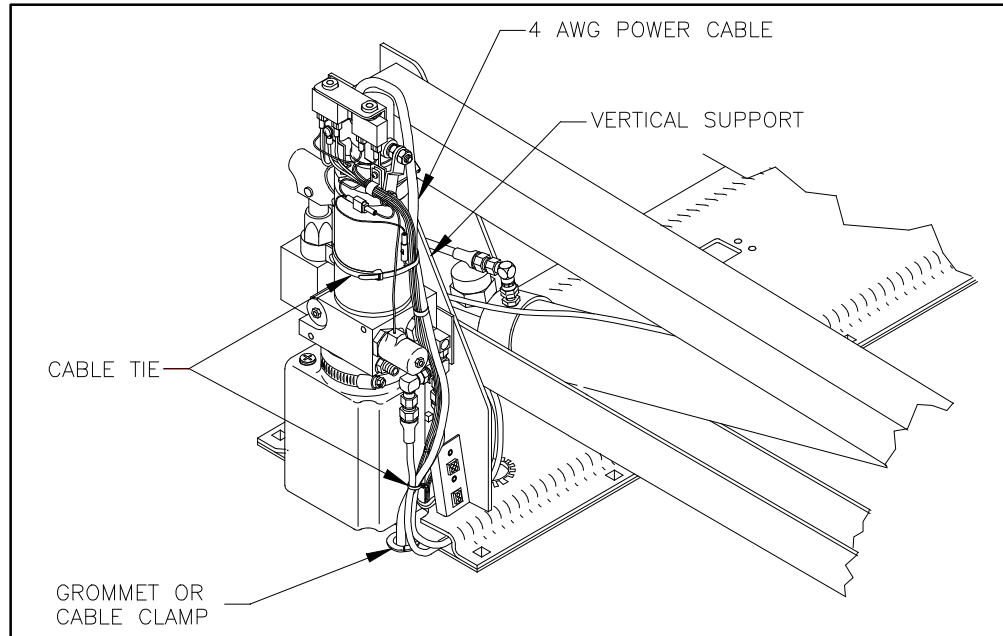

FIGURE 2-11: CABLE ROUTING
- e. Refer to **Figure 2-11**. Cut any excess wire from long cable, install remaining heavy ring terminal to unterminated end of long cable, and connect it to live side of solenoid. Ensure that red wire from main circuit breaker (if applicable) is connected to positive solenoid pole.